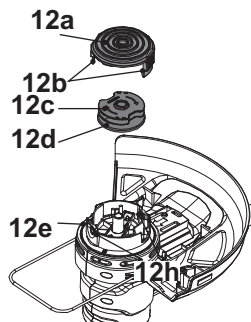

Fig. 25
3. Remove the trimming spool (12c) from the housing (12e) (Fig. 25).